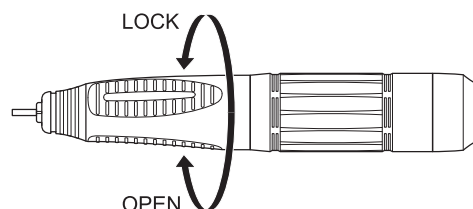

Fig. 7
- 1) Turn the bur lock ring in the OPEN direction shown in the Fig. 7 until it clicks to open the chuck.
- 2) Turn the bur lock ring in the LOCK direction shown in the Fig. 7 until it clicks to close the chuck. After attaching the bur, pull it back and forth to confirm that it is connected securely.